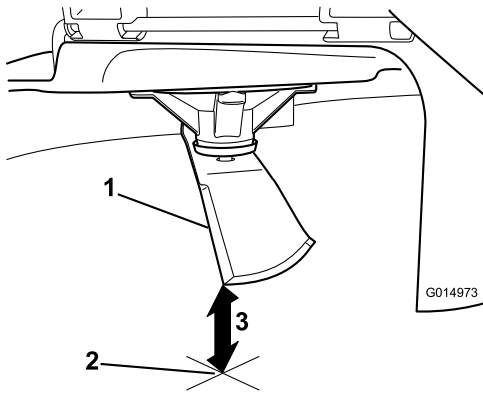

Figure 72
3. Measure from the tip of the blade to the flat surface (Figure 72).